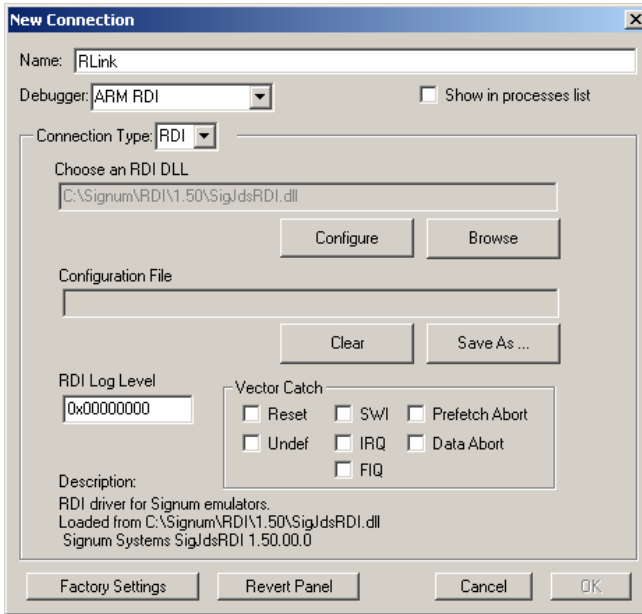

FIGURE 20 The IDE New Connection dialog box.
2. In the New Connection dialog box (Figure 20):